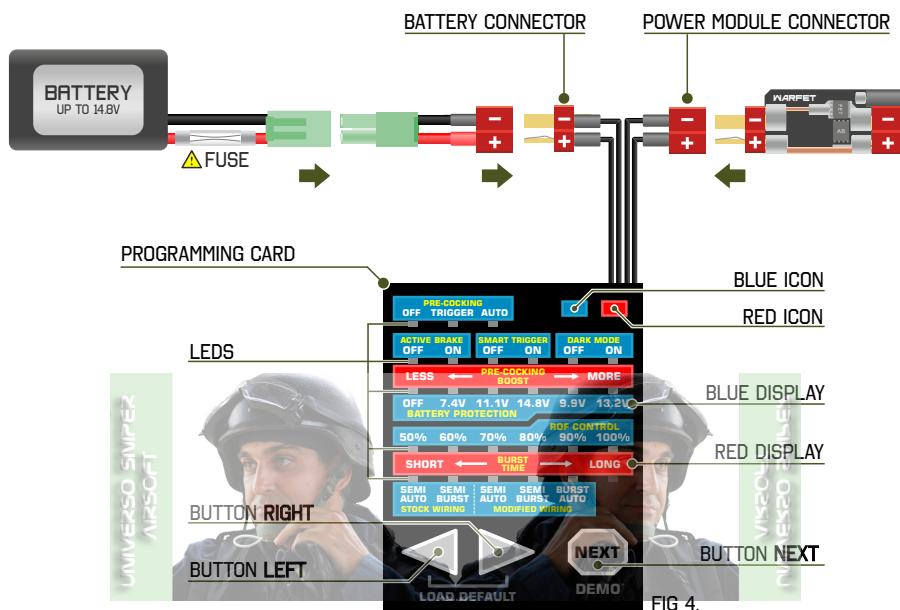

FIG 4.
1. Connect the battery to the **Programming Card**. The LEDs light on and start blinking (Fig 4.).